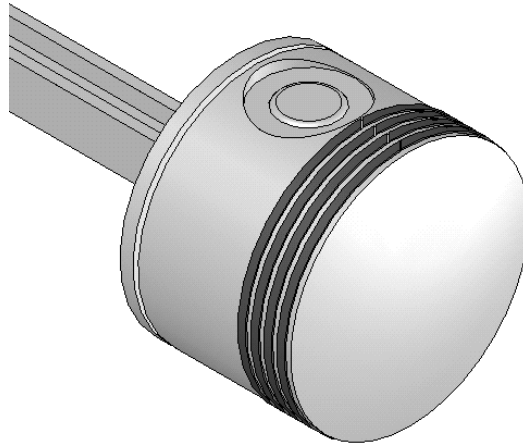

Figure 12-41 Subassembly after assembling the Piston Rings and changing their color
9. Choose the **All Occurrences** button to apply the selected style to all occurrences of the selected part. The subassembly after assembling the Piston Rings and changing their color is shown in Figure 12-41. Next, save and close the subassembly file.